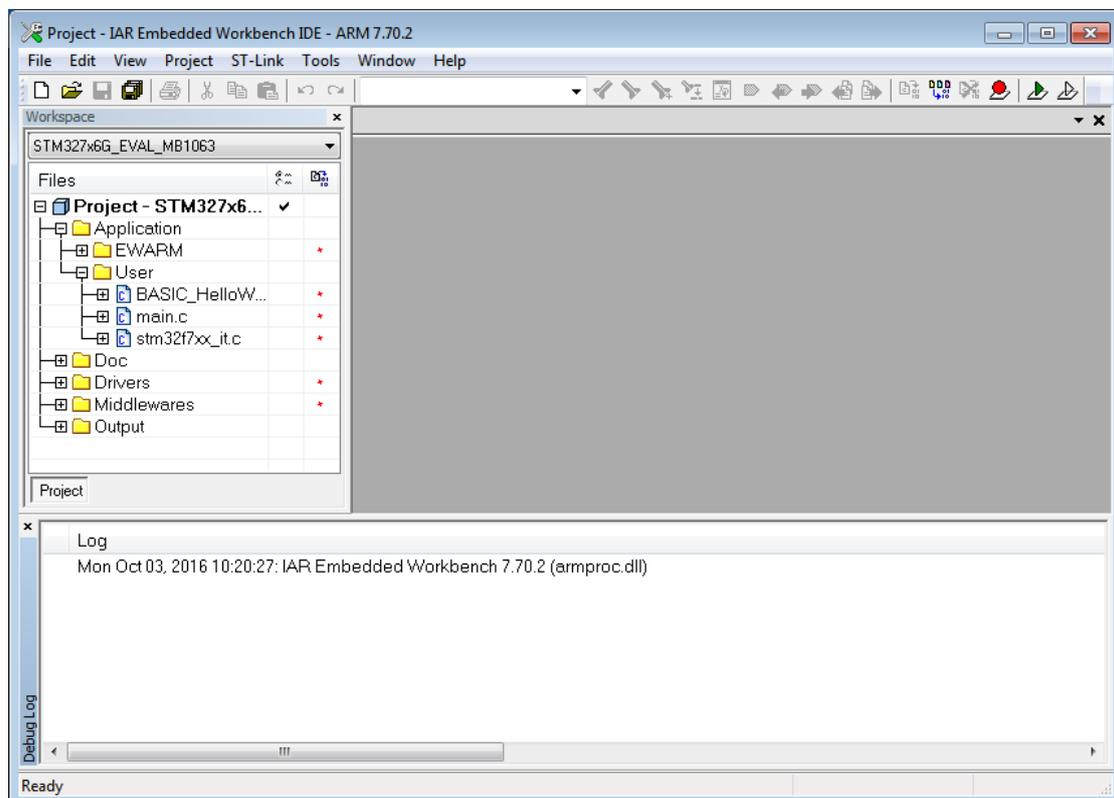

Figure 2: Project workspace files
7. In the *cam_gui* EWARM workspace, there are missing files *btn.c*, *sldr.c*, *logo.c* and *stm32f7xx_hal_msp.c*. Inspect the workspace file tree, see Figure 2. Add the file to the workspace. In the workspace file tree, select folder *User*, right click on it and from the context menu select *Add*→*Add Files...* and choose the missing files located in $\$STM32Cube_path\$Projects\$STM32756G_EVAL\$Applications\$STemWin\$cam_gui\$Src$ folder.